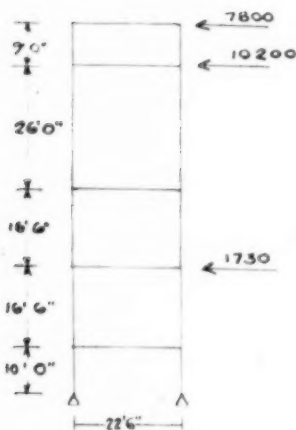

Fig. 25.
**Example 7.**—Design the frame shown in Fig. 25 having a constant value of  $I$  (this example is considered elastically elsewhere(3)). The five-story frame is loaded horizontally only at joints C, E, and F. As in the case of vertical loading, where the free-beam moment measured from the base-line is unaltered, for horizontal loading at the joints the sum of the four corner moments of each story must be equal to the total horizontal moment of the story. The corner moments of the horizontal beams are the sum of the column moments above and below the joint and therefore represent the maxima, so that plastic hinges may develop in these joints. An adjustment for plasticity therefore affects two stories, so that it is better, for horizontal loading alone, to make the plastic adjustment as small as possible. Nevertheless it is not necessary to calculate such a frame exactly with many indeterminate unknowns, as a small adjustment may be allowed. The following is a quick method for such a calculation without using the equation for the unknowns.